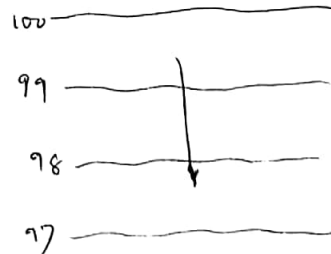

Fig 2c. Uniform Slope.
- iii) Uniform spaced contours indicate Uniform slope (Fig 2c)